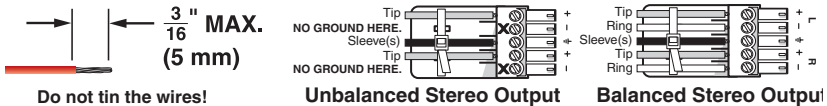

Figure 1-9 — Audio Output connector wiring
- ⑧ S-video connector (SV models) — Connect an S-video device to this 4-pin mini DIN connector.
- ⑨ Composite video connector (CV and AV models) — Connect a composite video device to this BNC connector.
- ⑩ Captive screw audio connector (MTP R SV A, MTP R AV) — Connect a balanced or unbalanced audio device, such as an audio amplifier, to this 3.5 mm, 5-pole captive screw connector. See Figure 1-9 to properly wire the output connector.